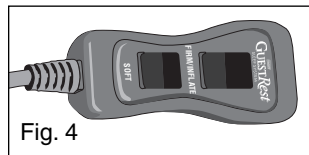

Fig. 4
6. Push Comfort Control™ switch to FIRM/INFLATE (see Figure 4 & 5). Bed will NOT over inflate to bursting.
7. Lie on the bed to adjust the firmness to your desired comfort level. To make the bed softer, press the SOFT switch on the Comfort Control™ hand control. To increase the firmness press FIRM/INFLATE on the hand control (see Figure 4).
4. Plug in the pump and press the FIRM/INFLATE switch on the Comfort Control™ hand control (see Figure 4) to turn the pump on. Do not press SOFT; this switch only works when pump is engaged with housing.